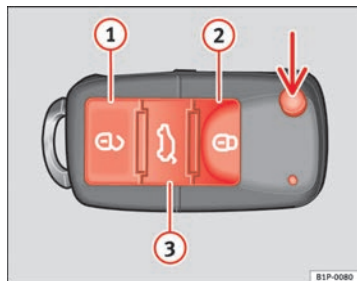

Fig. 44 Assignment of buttons on the remote control key
Using the button \Rightarrow fig. 44 (arrow) on the control, the key blade is released.
Unlocking the vehicle \Rightarrow fig. 44 **1**.
Locking the vehicle \Rightarrow fig. 44 **2**.
Unlocking the tailgate. Press button \Rightarrow fig. 44 **3** until all the turn signals on the vehicle flash briefly. When the unlocking button \Rightarrow fig. 44 **3** is pressed, you have 2 minutes to open the door. Once this time has passed, it will lock again.
- Press the  button  ⇒ page 80, fig. 44 on the remote control.